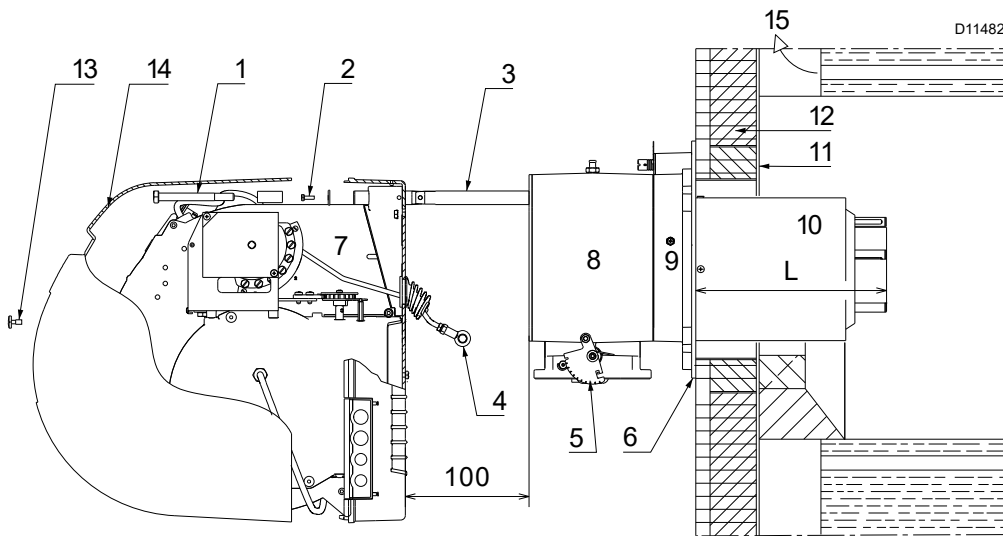
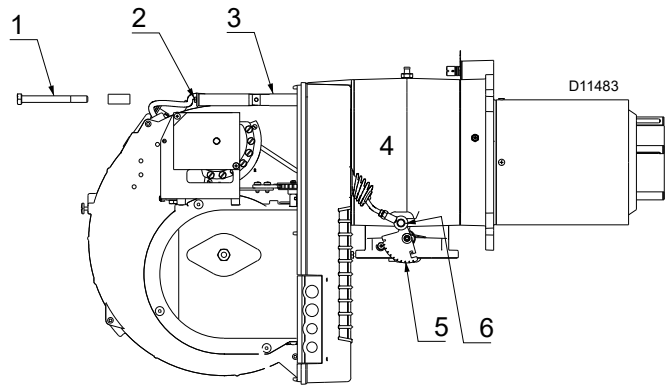

Fig. 10
Fig. 15
For boilers with front flue passes 1) (Fig. 10) or flame inversion chamber, a protection in refractory material 5) must be inserted between the boiler fettling 2) and the blast tube 4).
For boilers with a water-cooled frontpiece, a refractory lining 2)-5) (Fig. 10) is not necessary, unless expressly requested by the boiler manufacturer.
Separate the combustion head from the rest of the burner, (Fig. 10).
- Fix the flange 9) (Fig. 10) to the boiler plate inserting the supplied insulating gasket 6) (Fig. 10).
Once the head is adjusted, reassemble the burner on the guides 3)(Fig. 15) at about 100 mm from the pipe coupling 4) - burner in the position shown in Fig. 10 on page 14
- Insert the probe and electrode cables, then slide the burner as far as the pipe coupling - burner in the position shown in (Fig. 15).